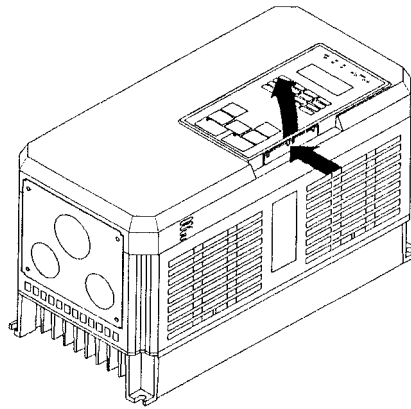

Figure 2-4
11. Remove the keypad from the front cover by pushing the depression area and lifting the keypad as shown below in Figure 2-4.